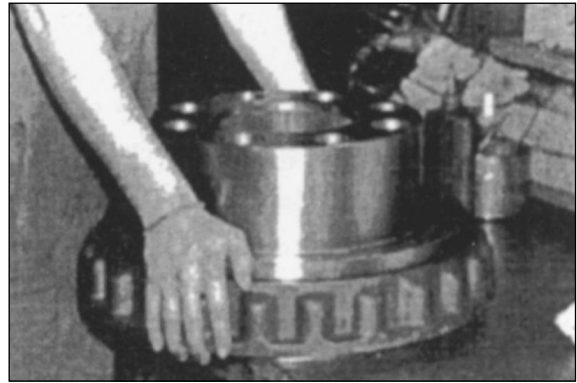

Figure 95
4. Install seal to hub using jig used in Step 1. Figure 95.